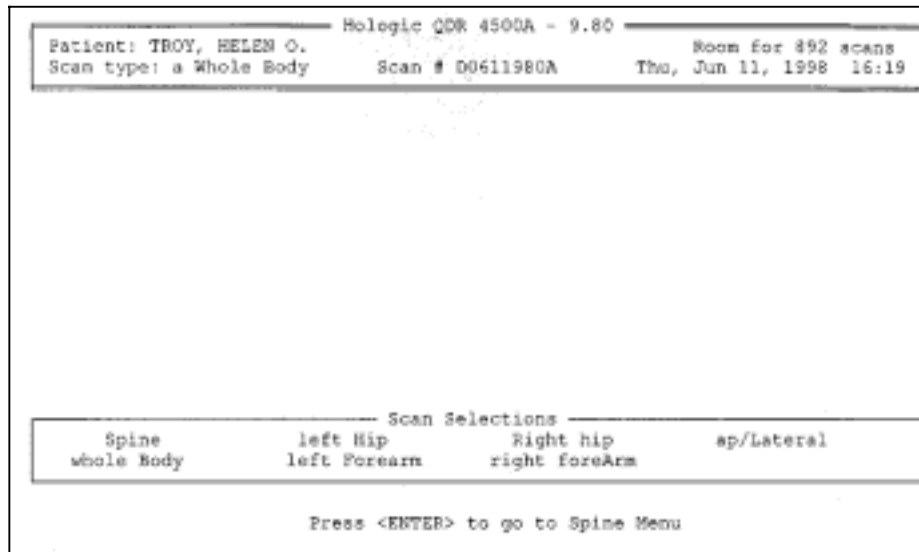

Figure 3-7. Scan selections menu
- The 'Scan Selections' menu appears. See Figure 3-7.